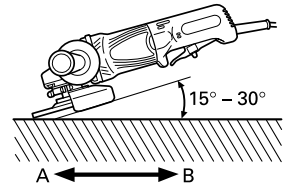

Fig. 4
Grind only with the wheel's edge by lifting the grinder 15° to 30°, as shown in Fig. 4.
5. Move the grinder in the proper direction. When using a new depressed center wheel in direction A (Fig. 4), the wheel edge may cut into the workpiece. In this case, grind in direction B (Fig. 4).